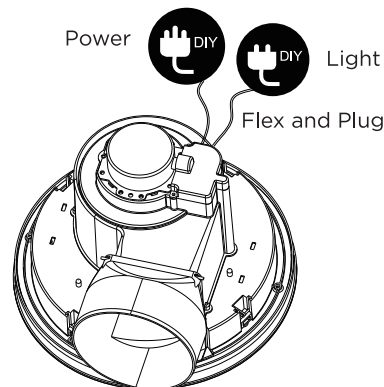

Figure 2: Connect the power and light
Step 5. Plug the cable into the power point socket in the ceiling (see figure 2)